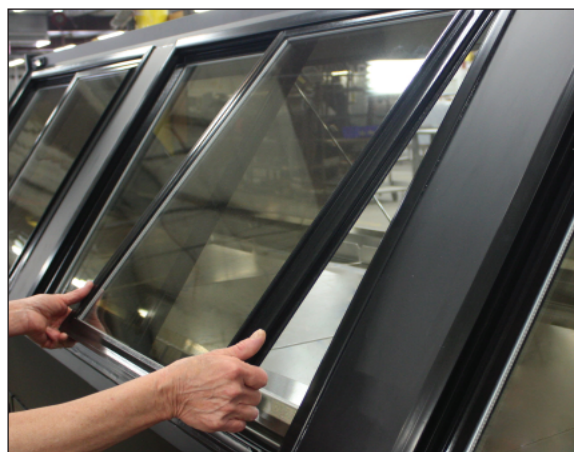

Fig. 17 Rear load door removal
1. Remove the rear sliding doors on the back of the case and clean. To remove: push up and pull out (Fig. 17). **Note: The same applies for optional rear lower storage doors (RRS/DRS).**